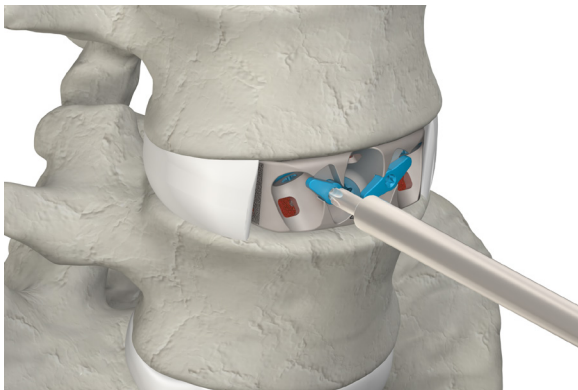
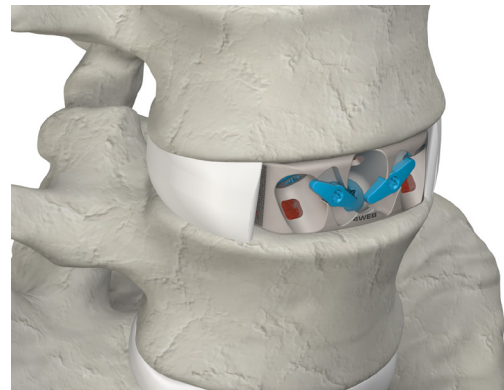

Figure 36
Figure 37
- ▲ Connect the Anti Back Out Plate Driver to the Torque Limiting Handle. Use the Anti Back Out Plate Driver to rotate the two Locking Plates approximately 90° (Fig. 36). The wings of the Locking Plate will stop against the recess on the anterior face of the implant (Fig. 37).